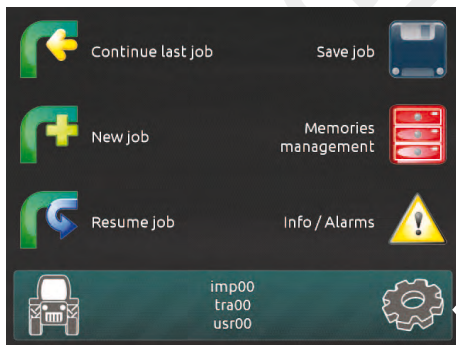
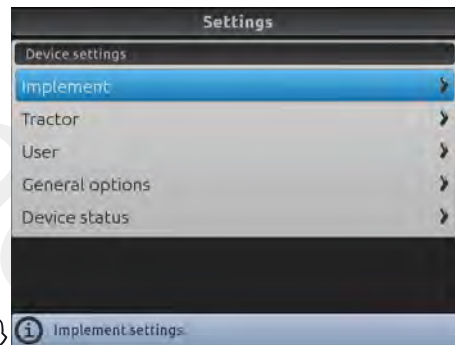

Fig. 62
Fig. 63
- In the "Home" screen (Fig. 62) press **FB** to enter the Settings menu (Fig. 63).